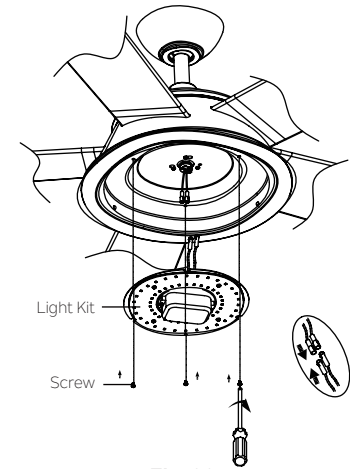
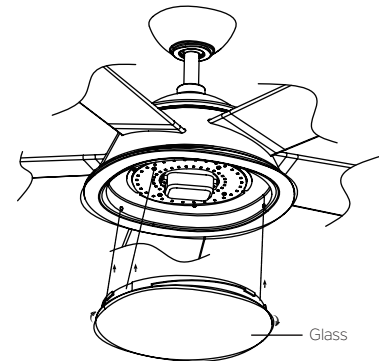

Fig. 20
Fig. 21
Step 1. Hold the light kit close to the switch housing and connect the WHITE wires from the light kit and fan by pushing the connectors together. Follow the same procedure with the BLACK wires. (Fig. 20)
Step 2. Tuck the connections neatly into the light kit. Attach the light kit to switch housing and securely tighten with three (3) screws found in the hardware pack.
Step 3. Secure the glass to switch housing by twisting in a clockwise direction, twist the glass gradually until it snaps on to the switch housing. Do not over-tighten. (Fig. 21)